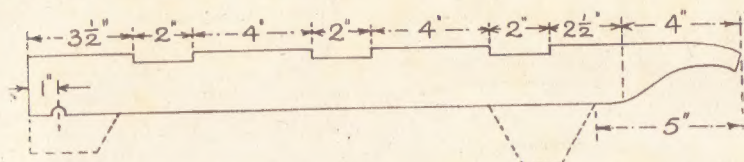
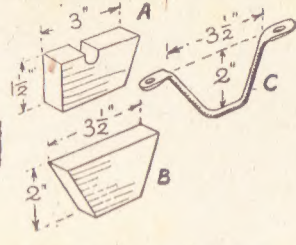

Fig. 1—Side view of handle with dimensions and shaping
Fig. 3—Bearers on foot shapes
In commencing to make the truck the two main handles will first be prepared. They are each 2ft. long and cut from 2in. wide stuff $\frac{1}{2}$ in. or $\frac{3}{4}$ in. thick. Square off the ends of the two pieces, and then, taking up one of them, proceed to mark off the positions of the recesses, as shown in Fig. 1. Cut down on the lines with a tenon saw to $\frac{1}{4}$ in. deep and clean out the wood with a chisel. Or, perhaps, the fretsaw frame fitted with a coarse saw would do the latter job more cleanly.
The bearer brackets which hold the axle are two shaped pieces 3ins. long by $1\frac{1}{2}$ ins. wide and $\frac{1}{2}$ in. thick, and one end of each is cut to a slope, as shown at (A) Fig. 3. The pieces are glued to the ends of the handles and a long screw put into the shaped ends of each to give added strength.
the ground. At (B) in Fig. 3 the size and shape of one foot is given, and, having cut one to shape, the second one can be accurately outlined by drawing round it. The proper position of the foot is given in the dotted lines in Fig. 1. Glue the feet on and drive in nails or screws
As an alternative to the feet described above, they may be made from stout wire, two pieces about 9 ins. or 10 ins. long being cut off and bent up to the shape given at (C) in Fig. 3. The ends of the wires are flattened by